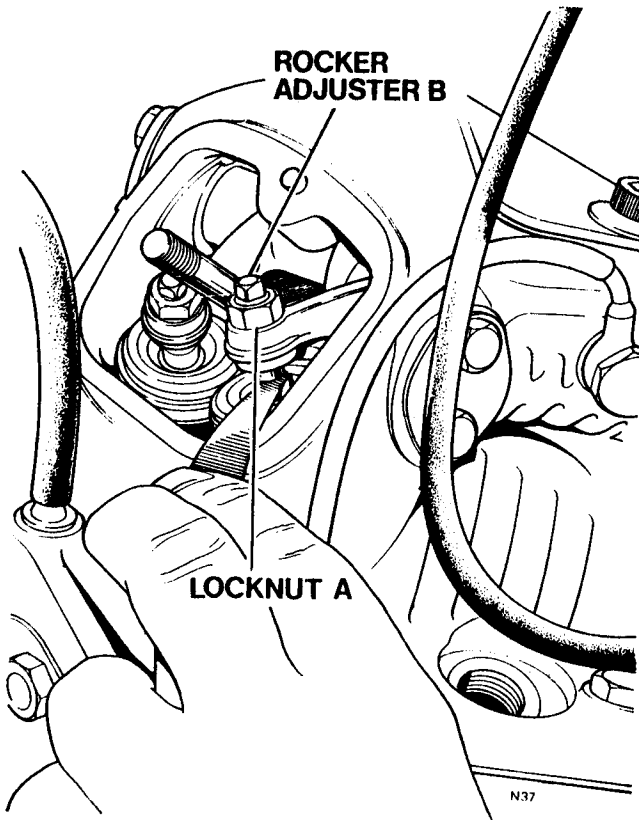

Fig. C9 Checking valve clearances
- 4 Using the correct feeler gauge (see table above for thickness) check the rocker clearance of the right side inlet valve. Fig. C9 shows the point where the feeler gauge is inserted.
- 5 If the clearance is correct i.e. the feeler gauge *just* nips, proceed to check the next valve as in (7). If gauge will not enter or if it does not nip, adjust as in (6).
- 6 Referring to Fig. C9, slacken the adjuster locknut (A) and screw out the adjuster (B) two turns. Place the feeler gauge between the adjuster and end of the valve stem and screw the adjuster in until it *just* nips the feeler gauge. Tighten the lock-